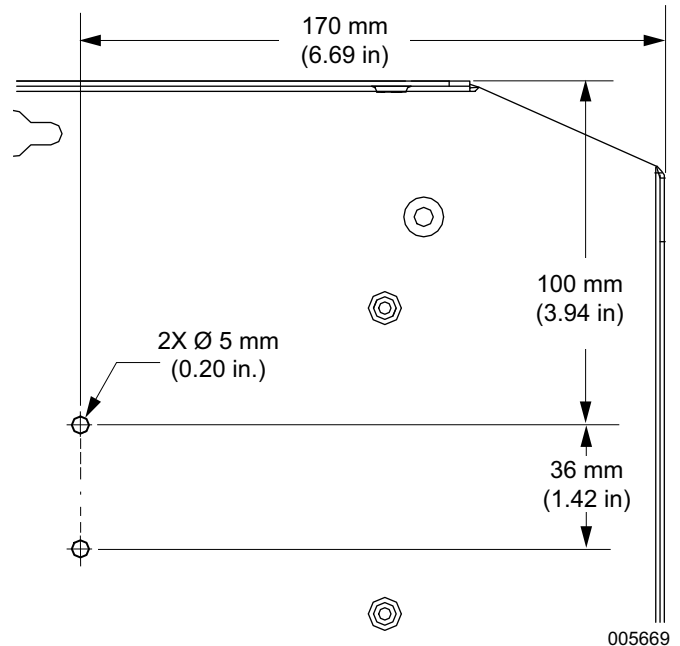
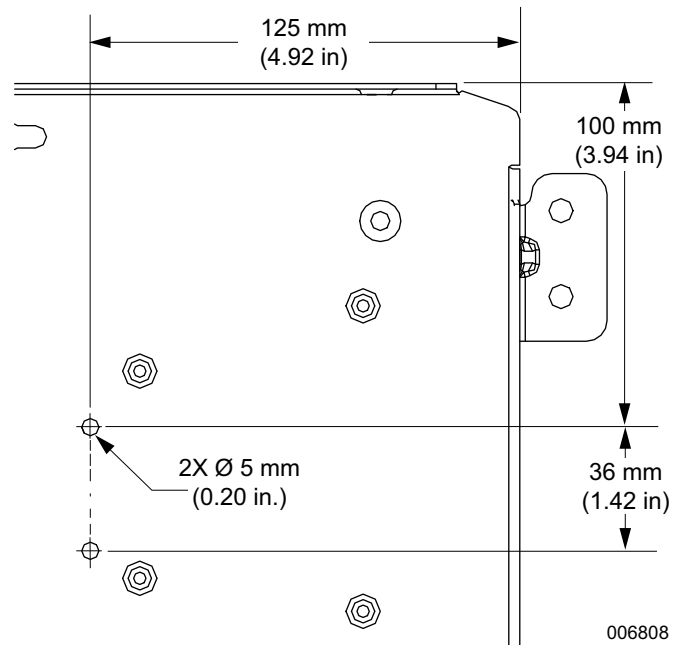

Figure 2. Hole Locations—8 kVA Engine Divider Panel
Figure 3. Hole Locations—10, 13, & 20 kVA Engine Divider Panel
1. See **Figure 2** or **Figure 3**. Drill two 5 mm (0.20 in) holes in upper right corner of engine divider panel under controller.